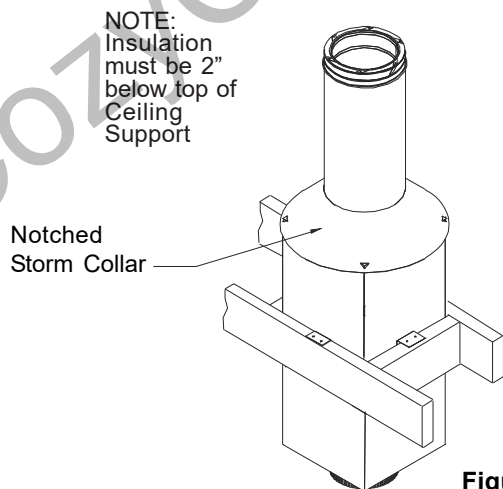

Figure 10c
5. Wrap the notched Storm Collar snug to the chimney. Bend outward the 4 V-shape notches and position over each corners of the Ceiling Support (SCSC). See Figure 10c.